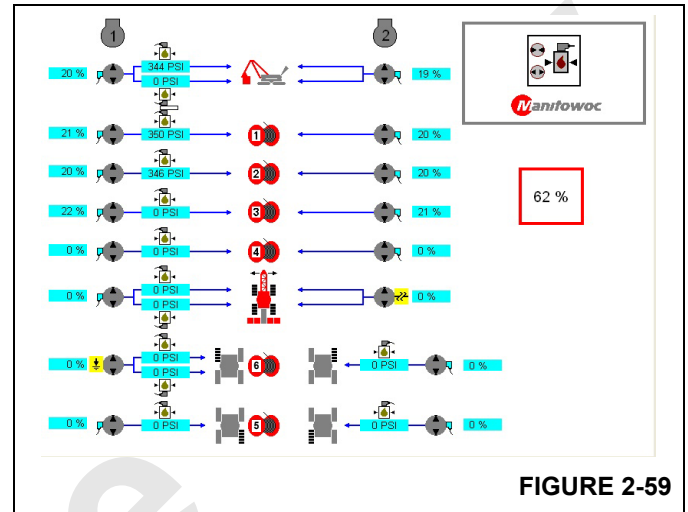

FIGURE 2-59
9. Press  to start the Charge Pressure Test. (Figure 2-59).